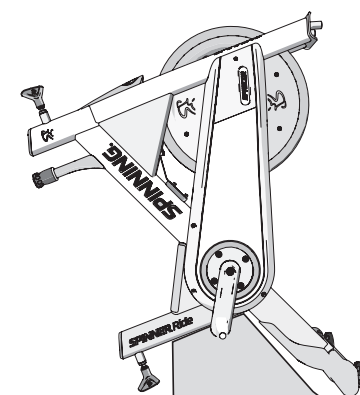

Figure 3
1. Stand the bike frame on its back end and place a piece of foam under the bike frame (Figure 3) to protect the seat adjustment pop-pin from damage.